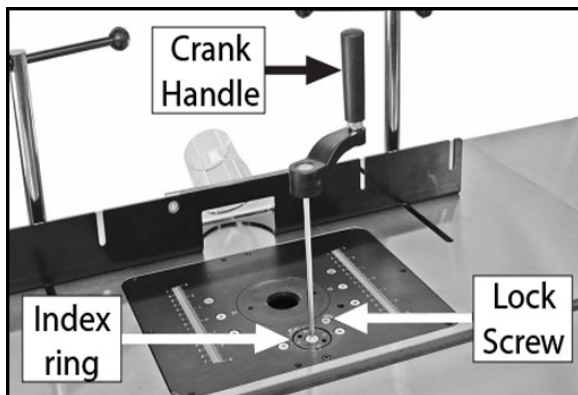

Figure 48
2. Insert the crank handle into the index ring (Fig.48) on the table insert.
4. To secure the height setting, turn the lock screw clockwise until it engages the rocker arm beneath the insert plate (Fig.48). Be sure it is snug but do not overtighten.